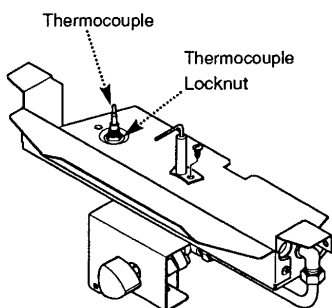

Fig. 43
9.4 Cleaning the Thermocouple (Fig. 43)